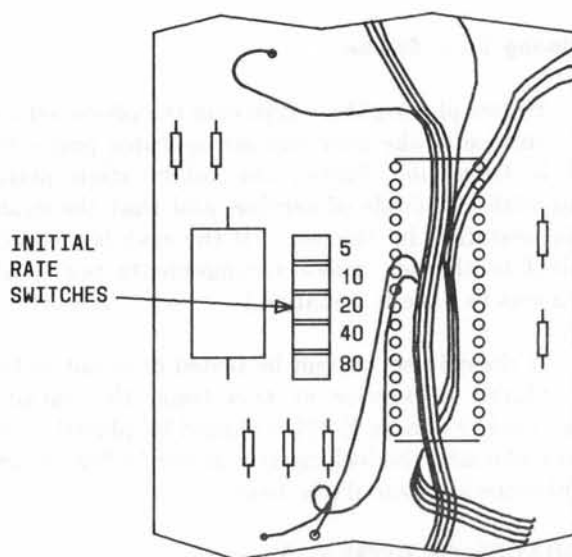

Fig. 22—32B Coin Chassis, Partial View
- The 2D-type coin sets are equipped with either a 32A (DA) or a 32B chassis. The initial rate on a 2D-type set equipped with a 32A (DA) chassis is set by connecting the plug-ended leads on the chassis into the appropriate positive and negative fields as shown in Fig. 21 and Tables J and K. The initial rate on a 2D-type set equipped with a 32B chassis is set by sliding the initial rate switches shown in Fig. 22 to the desired position. The initial rate on either a 32A (DA) or a 32B chassis can be set in 5-cent increments from 5 cents to \$1.60. (Initially, the rate is set for 25 cents.)